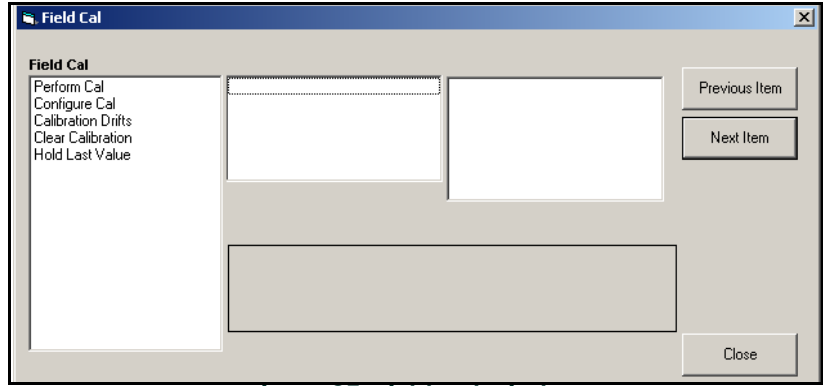

Figure 85: *Field Cal* Window
5. To open a particular menu, double-click on that menu on the tree. For example, if you double-click on the *Field Cal* menu, a window opens similar to *Figure 85* below.